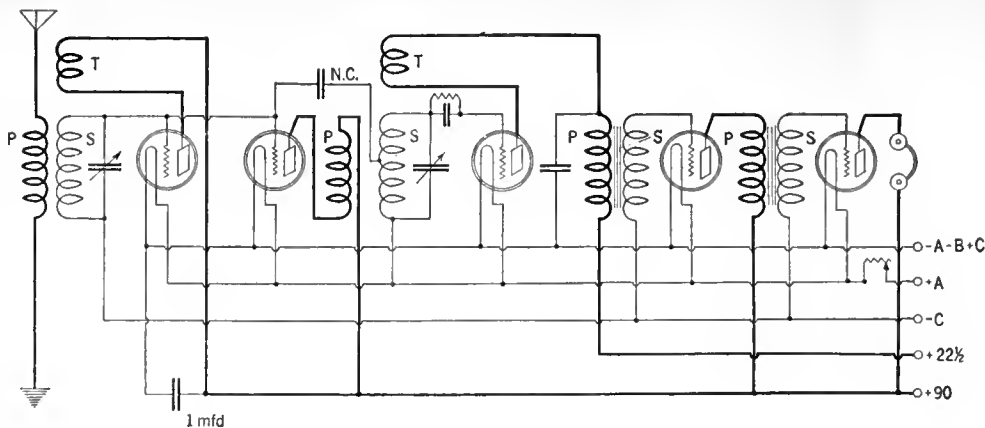

FIG. 3
**T**HE solution of the problem is in regenerating each tuned circuit, all the while keeping the coupling between them to zero. Such a circuit is shown in Fig. 3. It will be found with this receiver that the advantage gained by using two ticklers instead of one depends a great deal on the completeness of neutralization. The more exact the neutralization the greater the gain in signal.